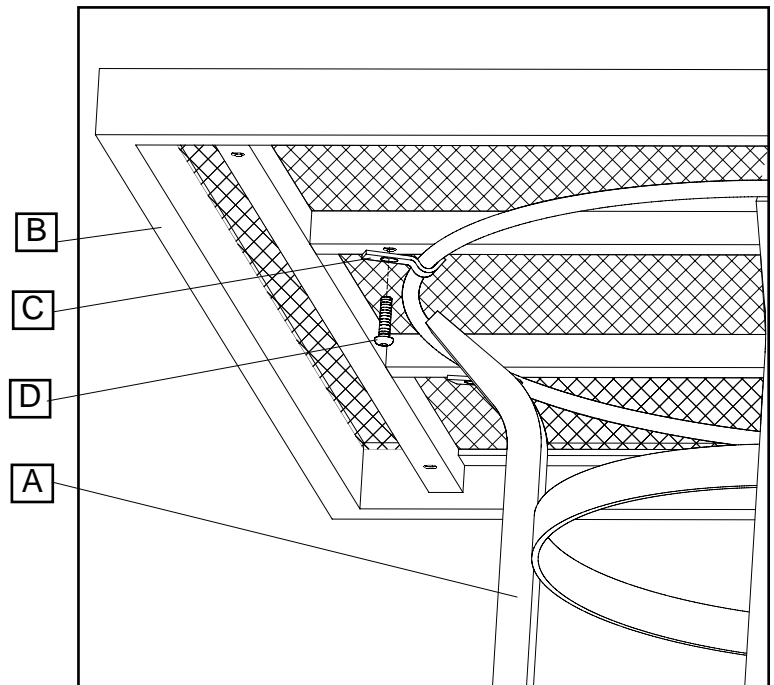

Figure 2: Top Attachment Detail
Step 2: Place top on base and attach with supplied Allen Wrench (E) using attachment brackets (C) and Allen Head Bolts (D) as shown in Figure 2.